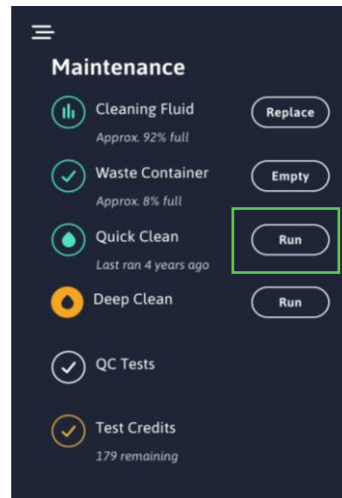

Figure 2
16. Perform three (3) consecutive and successful Quick Cleans (Figure 2). If a Quick Clean error occurs, contact Technical Service at 1-800-495-5270 for additional assistance.